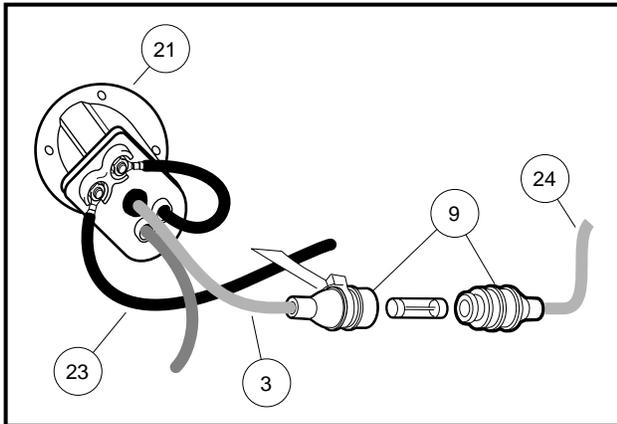

Figure 12-6 Charger Receptacle Wiring
3. Disconnect 10 gauge black wire (23) from the back of charger receptacle (21) (**Figure 12-6, Page 12-10**).
4. Disconnect the gray wire (from OBC) at the fuse housing (9), leaving the sense lead fuse inserted into housing on the gray lead (3) from the charger receptacle (**Figure 12-6, Page 12-10**).